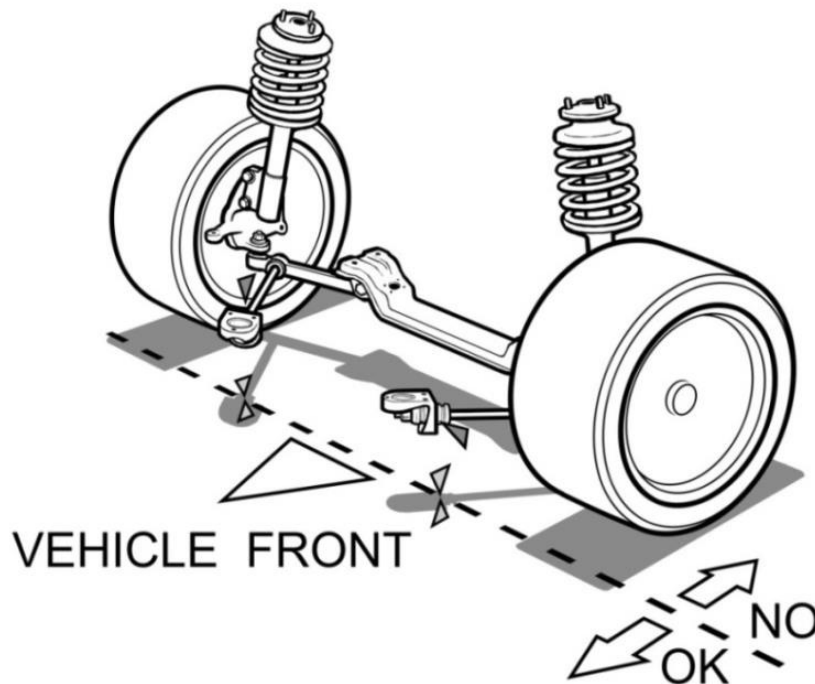

Figure 1
D. Front suspension examples are in Figure 1 and 2.